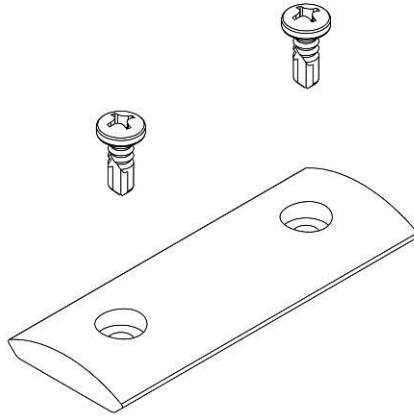

Figure 15
2. Attach the gear motor to the arm on the front of the trailer. As shown in figure 15.